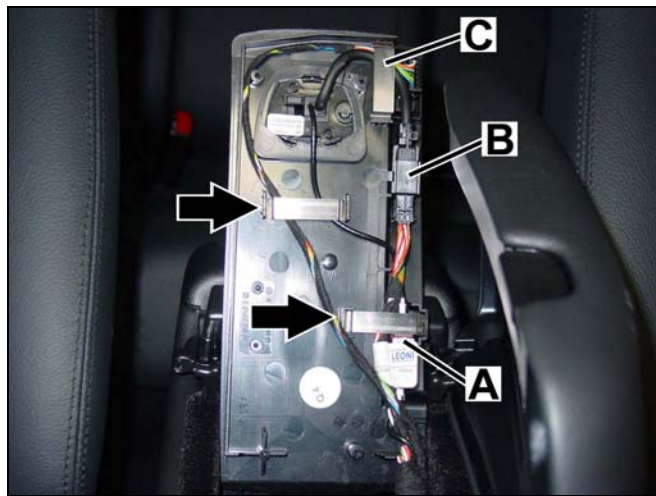

Figure 41
- Connect the male FAKRA antenna lead from the contact plate to the female FAKRA connector from the console harness (A, Figure 41).
- Connect the power supply male connector from the contact plate to the female power supply connector from the console harness (B, Figure 41).
- Snap the coupled connectors into the channel clips (A and B, Figure 41), route the harness through the channel and under the existing clip (C, Figure 41).
- Use the two kit-included clips (Arrows, Figure 41) to secure the remaining loose harness.